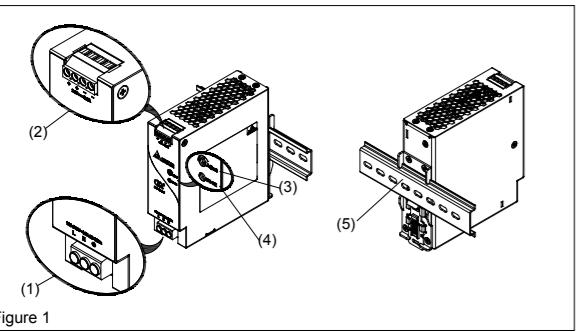

Figure 1
3. Output connection (Fig. 1 (3))
2. Output connection (Fig. 1 (2))
Use the "+" and "-" screw connections to establish the 24Vdc connection. The output provides 24Vdc. The output voltage can be adjusted from 22 to 24Vdc on the potentiometer. The green LED DC OK displays correct function of the output (fig. 1 (4)). The device has a short circuit and overload protection and an over voltage protection limited to 35Vdc.